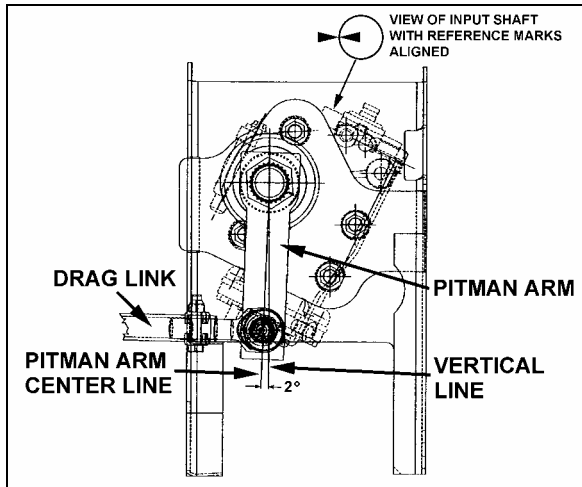

FIGURE 9: PITMAN ARM ALIGNMENT
2. Afterwards, the pitman arm should be adjusted with reference mark aligned or to an angle of 2° in relation with the vertical axis (Fig. 9).